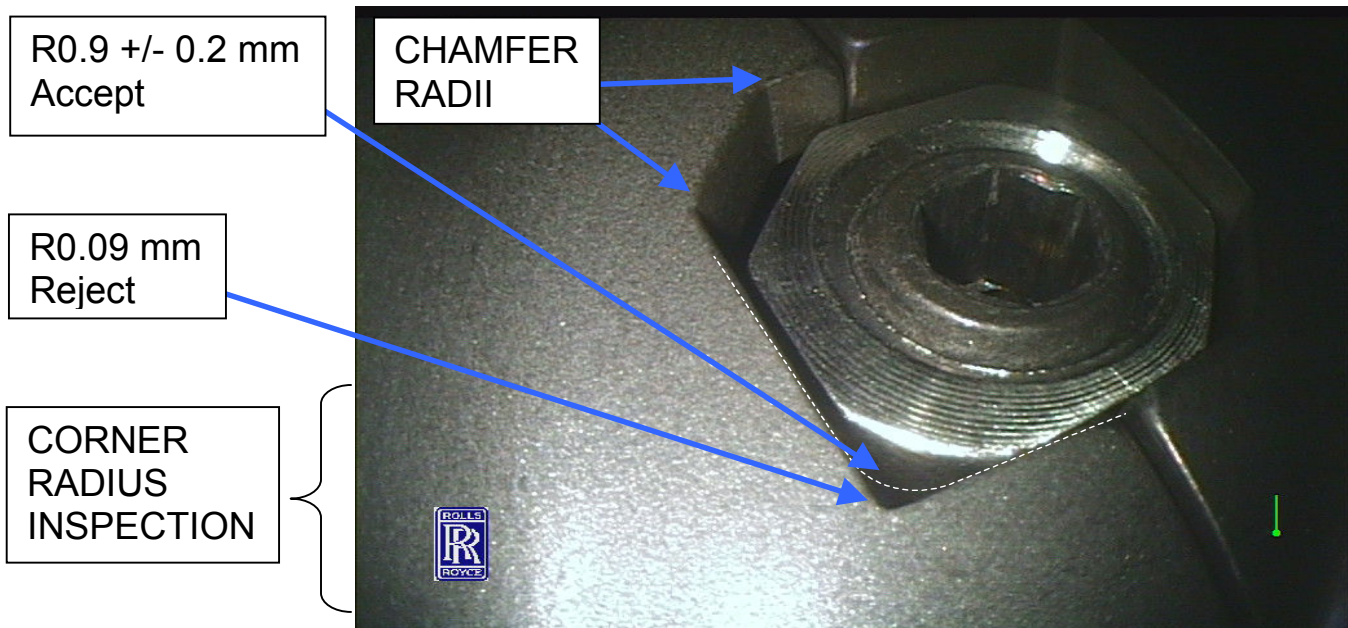

Figure 1: Appearance of the blade locking slot corner radius
- (1) Examine the HP Compressor stage 8 rotor locking blade slots at inspection location 10 in accordance with SUBTASK 72-41-15-222-095
- (a) Visually examine the locking slot corner radius as shown in figure 1 and 2.
- (d) Other than A. (1) (c) Reject the locking blade.